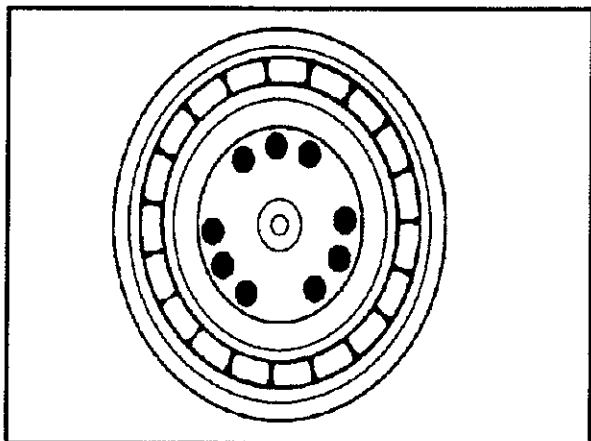

Figure 22—Stake Nose of Pinion
3. Stake nose of pinion in nine places, using a center punch. (See Figure 22—Stake Nose of Pinion.)